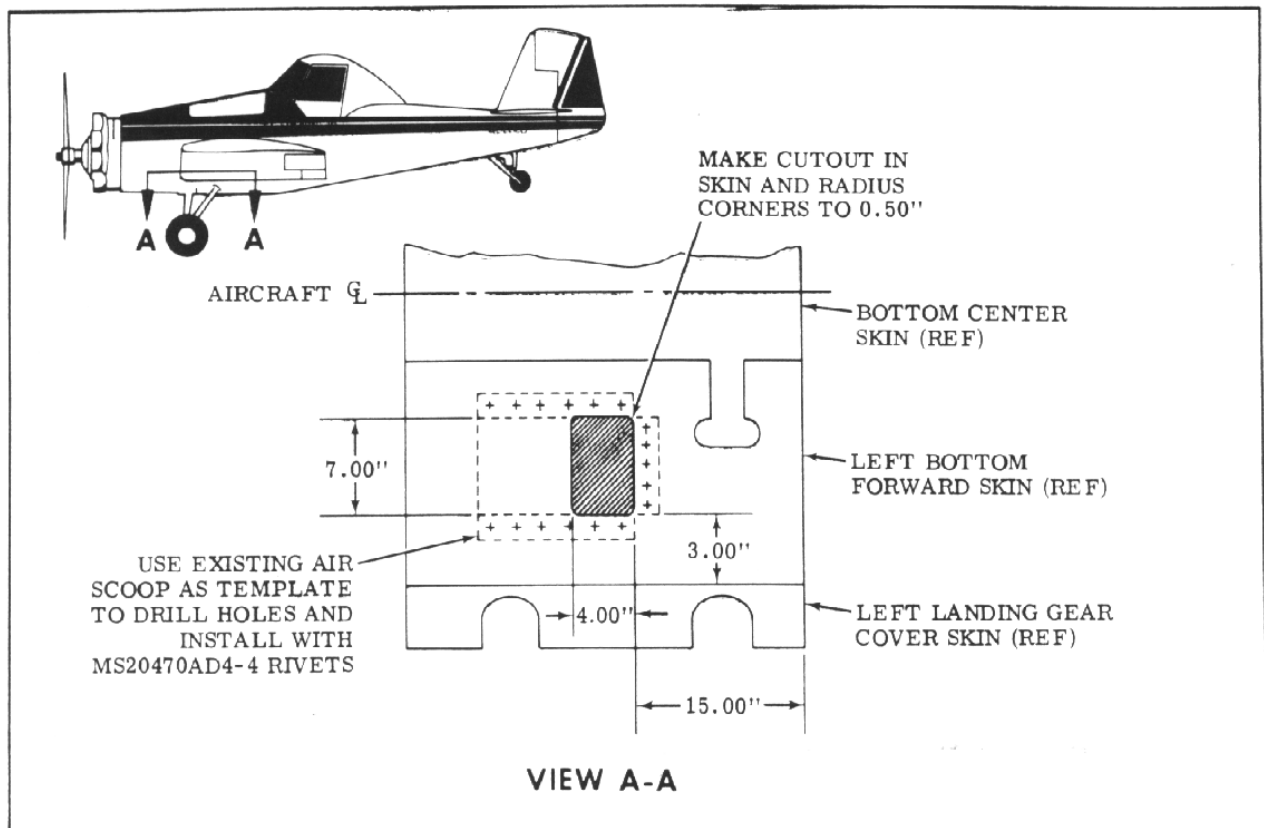

Figure 8.
39. Locate and make a 4.00 inch x 7.00 inch cutout in left forward bottom fuselage skin (see Figure 8).
40. Using existing scoop removed in step 36 as a template, locate and drill attaching holes in left forward bottom fuselage skin and install scoop with MS20470AD4-4 rivet (17 places)(see Figure 8).